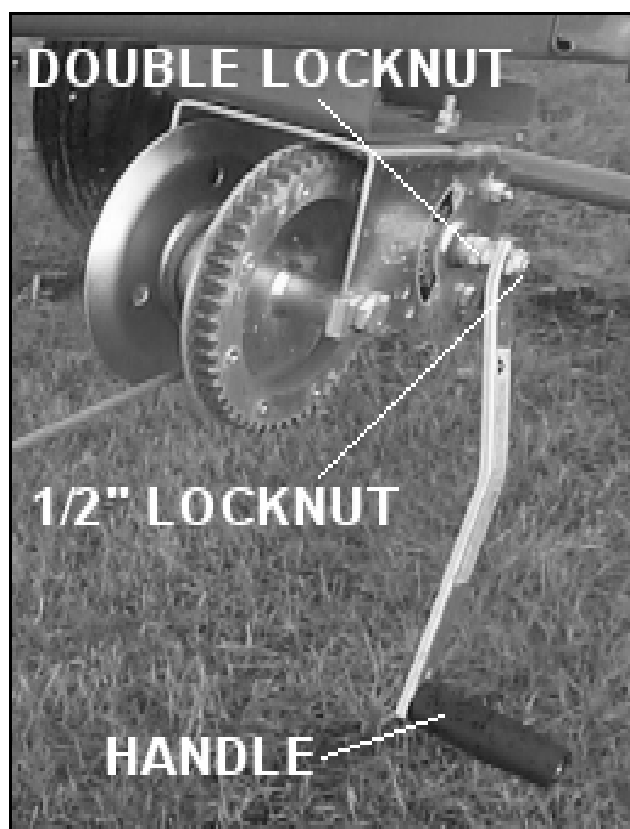

Figure 3.22 Winch Handle Assembly
2. Fasten with 1/2" locknut (Figure 3.22).